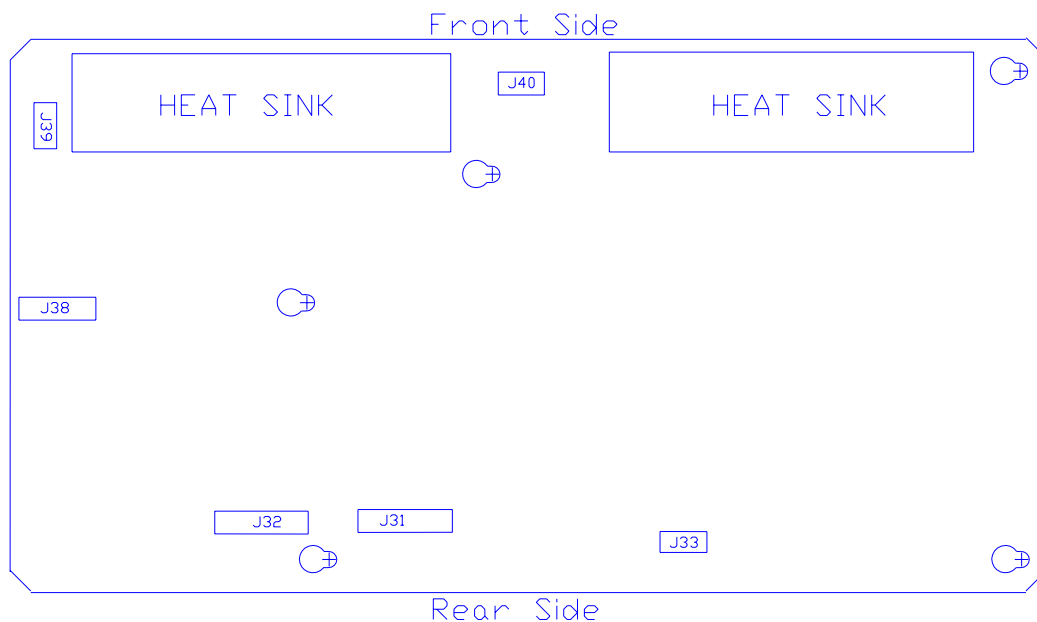

Figure 4-7. Convergence/Deflection PCB.
4. Loosen (not necessary to remove) the 5 screws that secure the Convergence Deflection PCB to the electronic module card cage (see Figure 4-7).